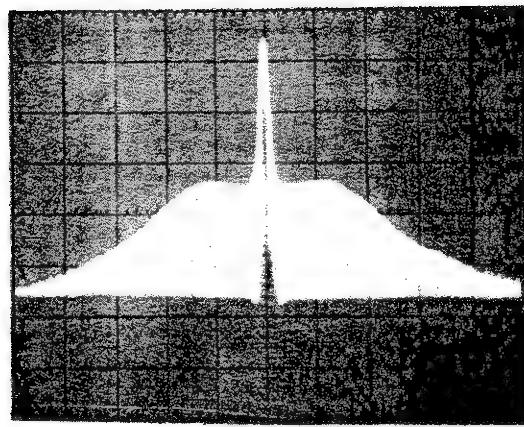

Figure 5-15. Loop Gain Adjustment Waveform
c. Set the Signal Generator/Sweeper to 11.5 MHz CW at -35 dBm and symmetrical sweep width to 3 MHz. The analyzer display should be approximately as shown in the typical waveform shown in Figure 5-15. Adjust the A4A6 GAIN control (A4A6R2) for the response shown.